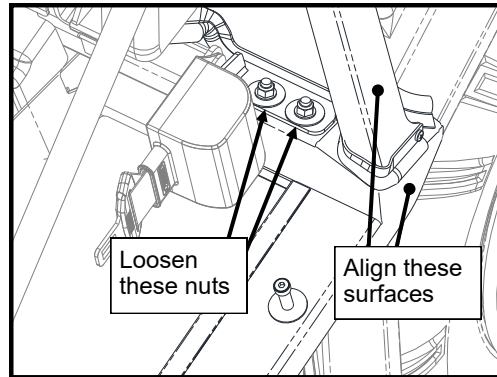

Figure 11.2: Rear Fender Adjustment
- 11.2 Loosen the two 5/16" nuts at the rear of each fender panel and shift the rear of the fender panel left or right to align the outer surface to the bottom of the lower rear panel (see Figure 11.2). Tighten the 5/16" nuts snug.